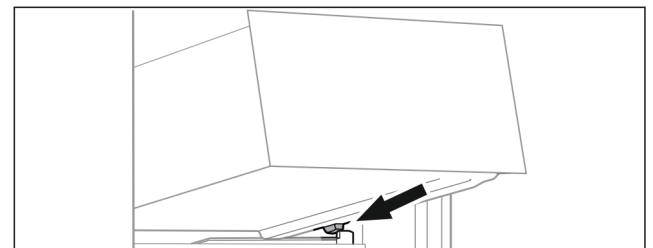

Fig. 75
- ▶ Place drawer at an angle behind the stoppers on the moulded rib. (see Fig. 75)